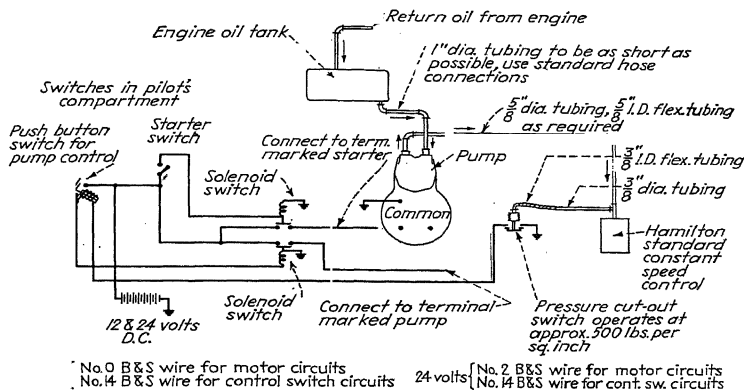

FIG. 6.—Installation diagram for wire sizes and connections.
**Wiring and Accessories.**—All starter pumps have three terminal posts and two sets of field coils to permit reversal of rotation for operation as a starter or a pump. The two positive posts are housed in a common shield which is stamped with the letter "P" adjacent to one post to indicate the pump field coil post and the letter "S" adjacent to the other post to indicate the starter field coil post. The third, or armature post, is the negative post and is contained in a separate shield. On grounded units the armature post shield is omitted and the post is grounded internally with a steel washer. Before making connections, examine the motor terminals to determine the system utilized and refer to the name-plate data to ascertain the proper voltage required. The same precautions should be taken when installing the accessories used with the starter. When installing grounded systems on airplanes having shock-mounted engines, be sure the engines are securely grounded to the airplane structure. Two remotely controlled solenoid switches may be used to change over from starter to pump field circuits. However, when the Hamilton standard pressure cutout switch is incorporated in the oil pressure line, the two-solenoid system should be used with the Hamilton standard push-button switch in the pump field circuit (see Fig. 6). Details regarding the installation of control switches and the booster coil, if used,
Connect the inlet port of the pump, as shown in Fig. 6, to the supply tank through a suitable filter having a screen with a maximum opening of 0.003 in. The filter must either be submerged in the oil supply itself or be of air-tight construction. The supply to the pump should be drawn from the bottom of the supply tank to prevent the possible admission of air to the inlet line to